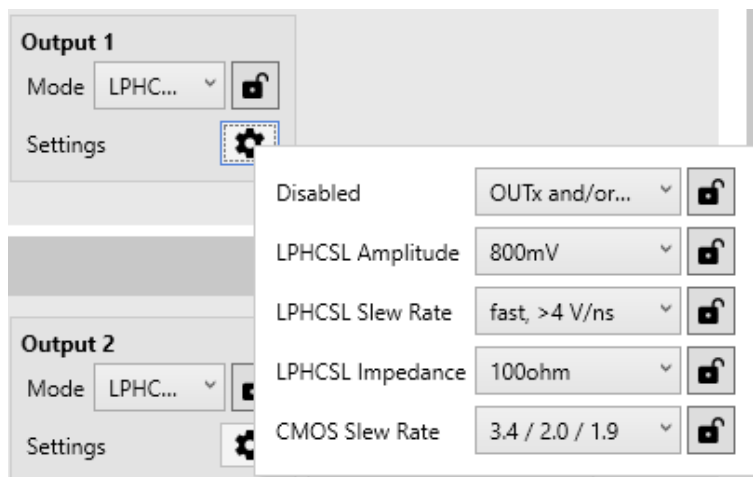

Figure 18. Advanced Output Settings
- Configure the output bank settings which includes the divider source (LPFOD0/1, IOD0/1, or HPFOD0/1/2), output frequency and output mode (LPHCSL, LVDS, and LVCMOS). If a bank is to be unused, use the “Power Down” check box to turn off the bank. Click on the settings icon  to adjust amplitude, impedance, and slew rate for each output (see Figure 18).